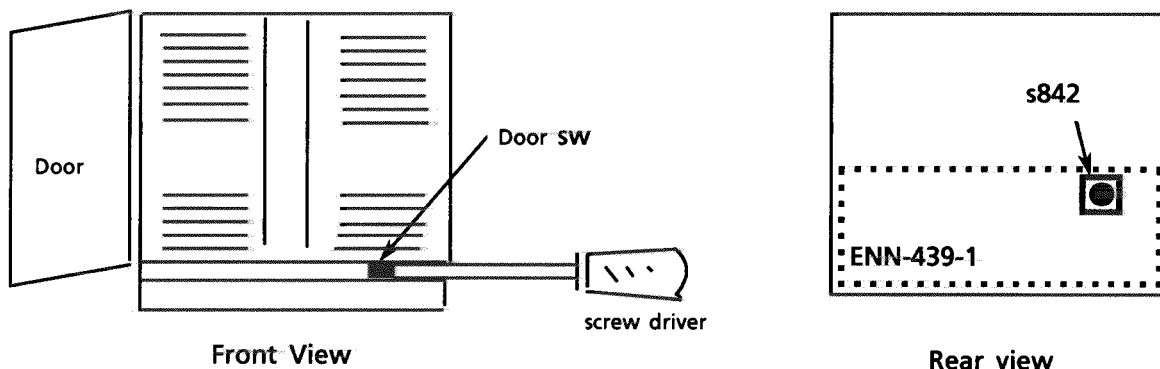

Fig 4. Door sw test sw View
- 5) Push the door SW using the like to turn the switch on shown fig 4 .
- 10) Set the door switch ON again,and repeat the procedure(7)~(9) so that the position of the rail in the elevator can be the same as the one for the tray installing shelf.